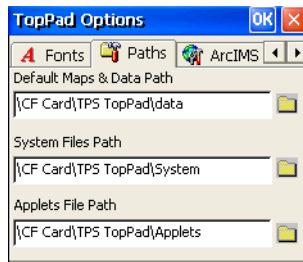

Figure 3-37. TopPAD Options – Path
- *System Files Path* and *Applets File Path* under the *Paths* page should not be modified unless the directory structure has been changed since installation (Figure 3-37 on page 3-30). These strings should always point to the correct System and Applets directory else the program will not perform as intended.